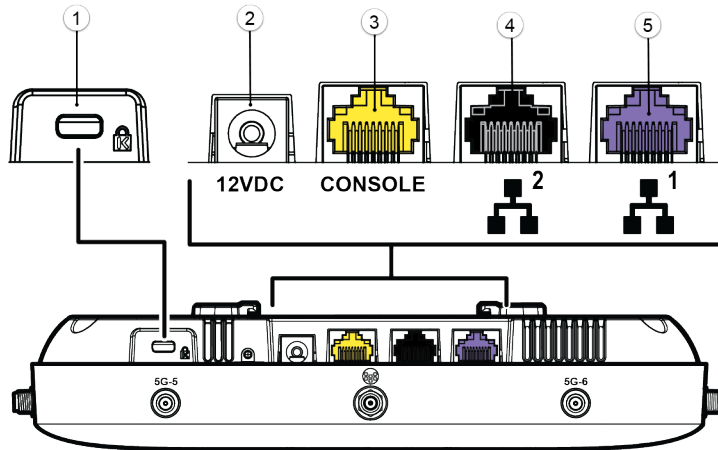

Figure 3: AP510e back ports
You can power the AP through the RJ45 Ethernet port (LAN 1 (5GE) and LAN2 (GE) ports, see Figure 3 on page 12). If you need to power the AP510e with an external 12V DC power supply, you can plug the power cord into the power connector on the back of